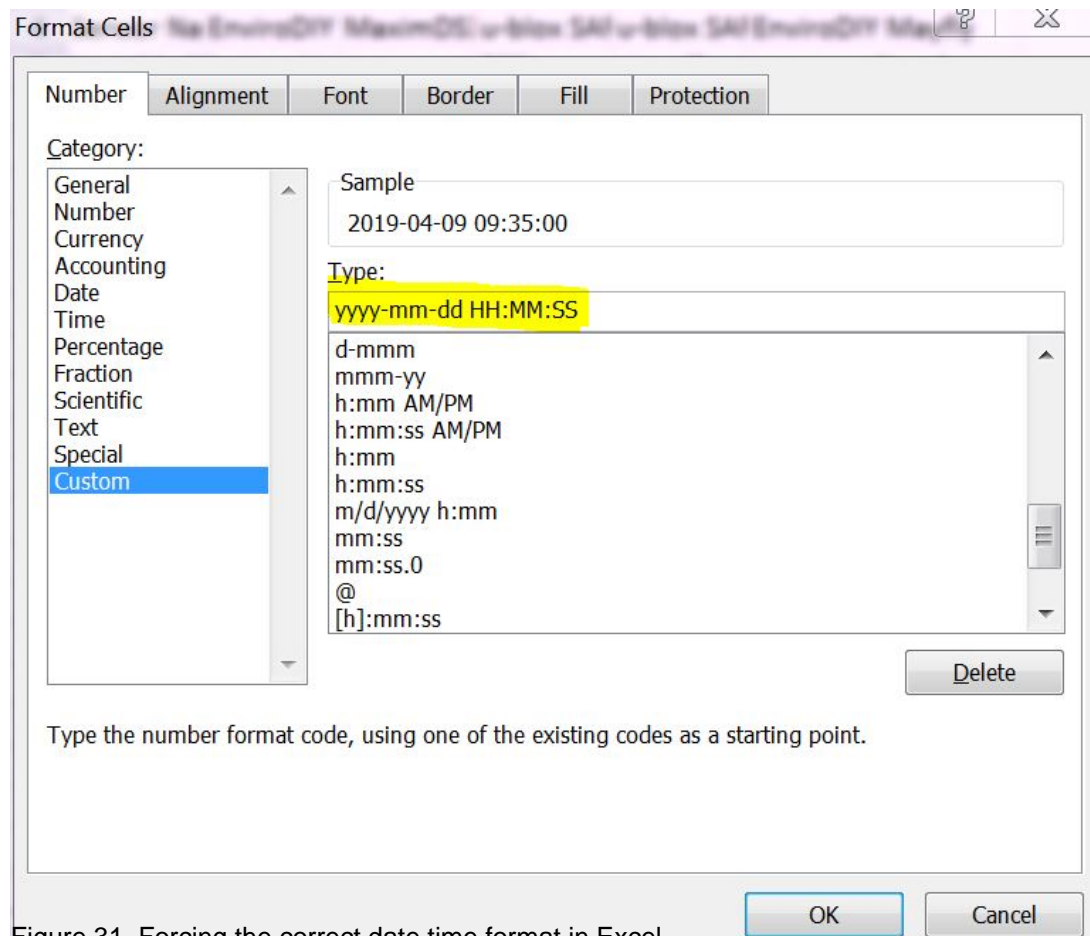

Figure 31. Forcing the correct date time format in Excel.
4. The "Type" field will show m/d/yyyy h:mm. DELETE that format completely and type in yyyy-mm-dd HH:MM:SS (Figure 31).